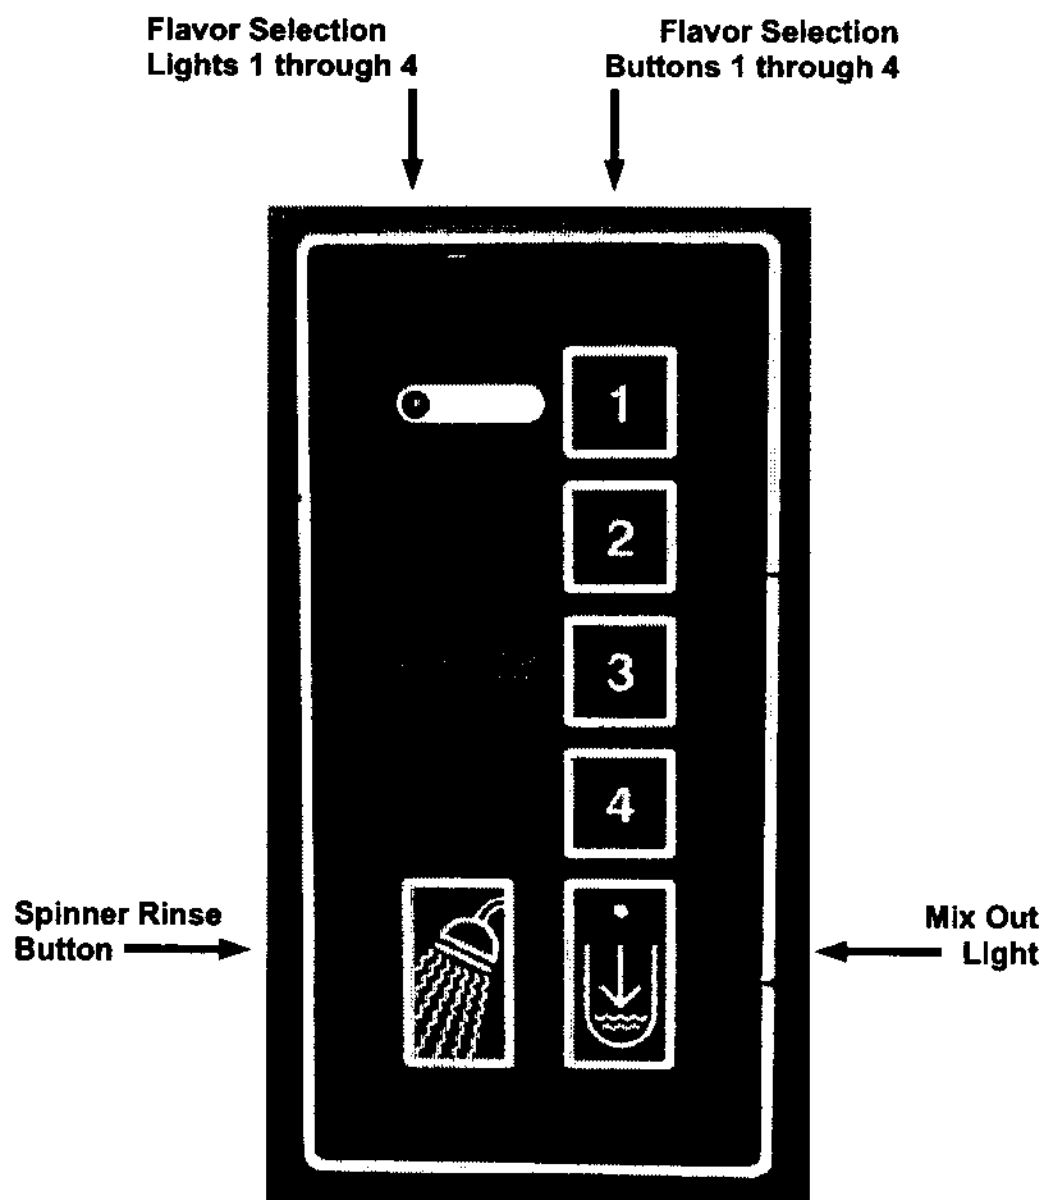

Fig. 44a
1. With the Auto/Cleanout switch in the "AUTO" position, select the desired flavor by pressing #1 (vanilla), #2 (chocolate), #3 (strawberry), or #4 (optional flavor) on the Flavor/Control switch - Fig. 44a. Release immediately and the red indicator light adjacent to the selection will illuminate.